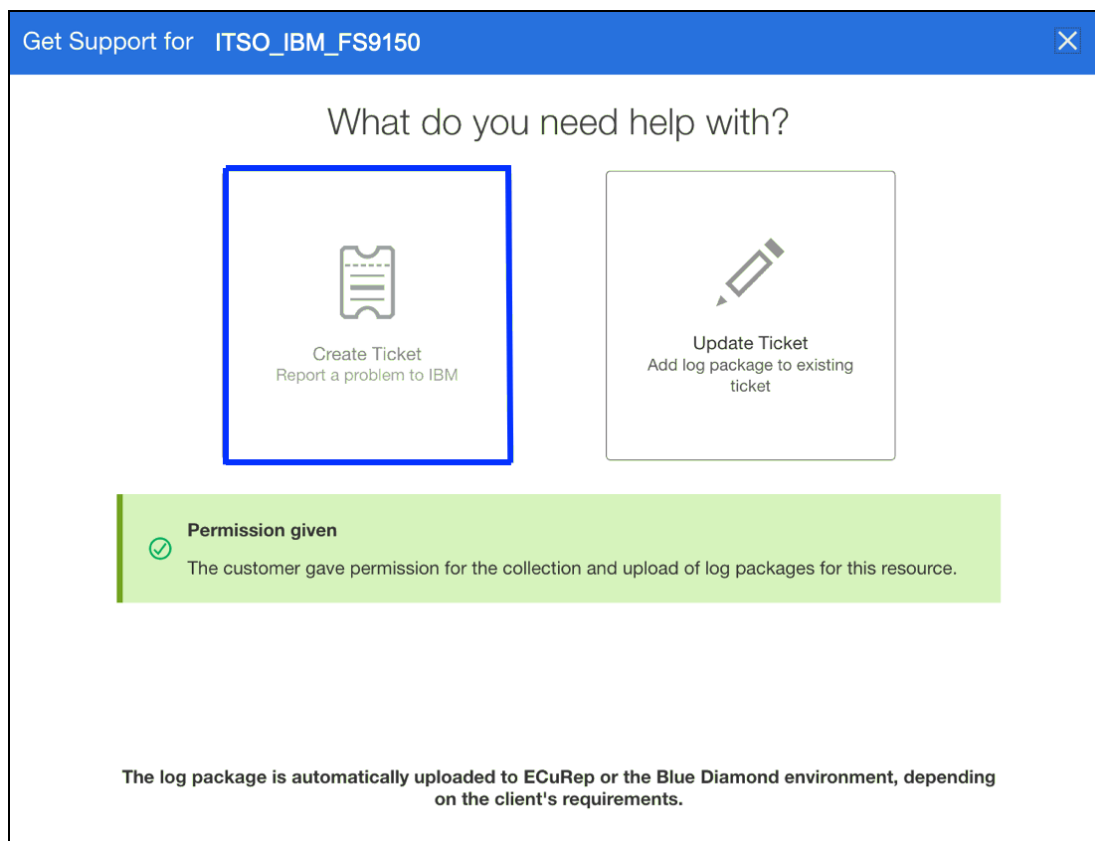

Figure 11-13 Create ticket
6. Figure 11-13 on page 512 shows you the panel where you can either create a new ticket or update a previously created one.
**Note:** The *Permission given* information box, shown in Figure 11-13, is an option the customer needs to enable on in the IBM FlashSystem GUI. See the 11.4, "Remote Support Assistance" on page 504 to enable this function.